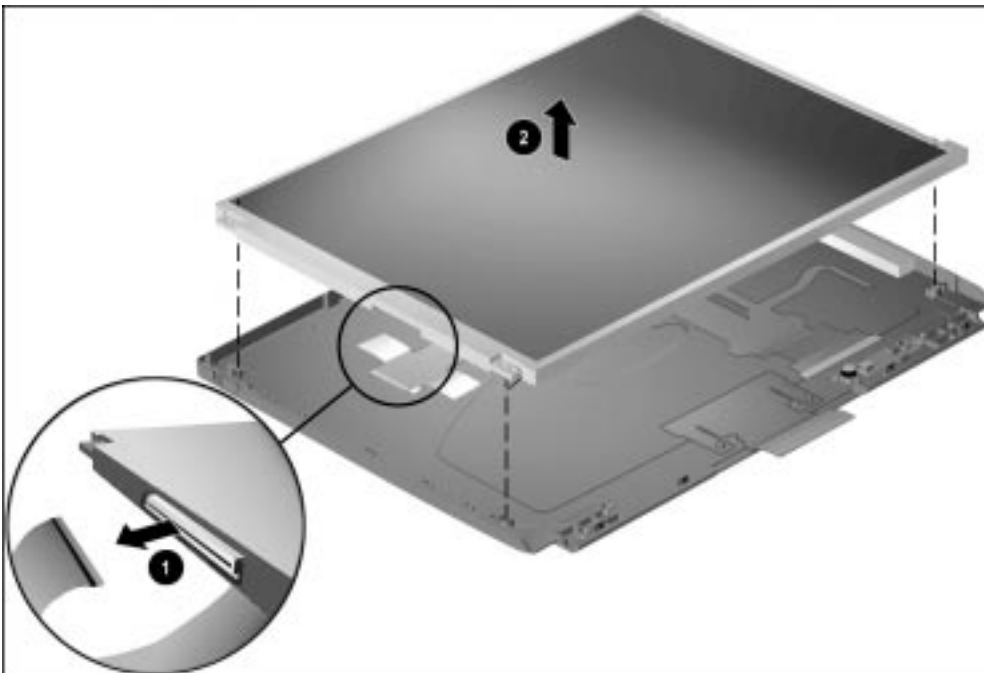

Figure 5-38. Disconnecting the Display Cable and Removing the Display Panel
CAUTION: Exercise caution when disconnecting the cable from the panel. Pull the cable away from the panel on a horizontal plane ❶ (Figure 5-38). Failure to follow this caution can result in damage to the cable and panel.
9. Remove the panel from the enclosure ❷.